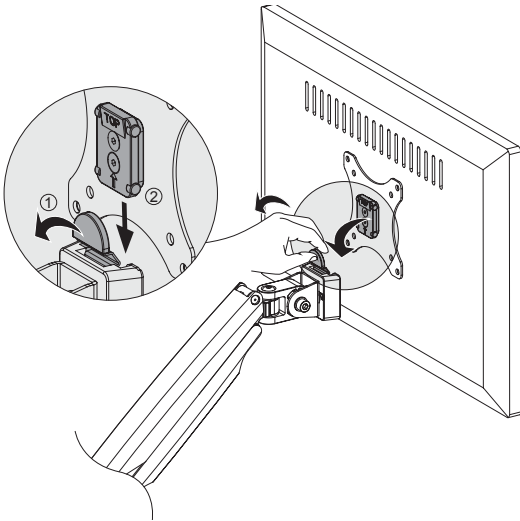

Figure 10
- 3. Push the tab back and mount the VESA Plate onto the Extension Arm, see Figure 10.